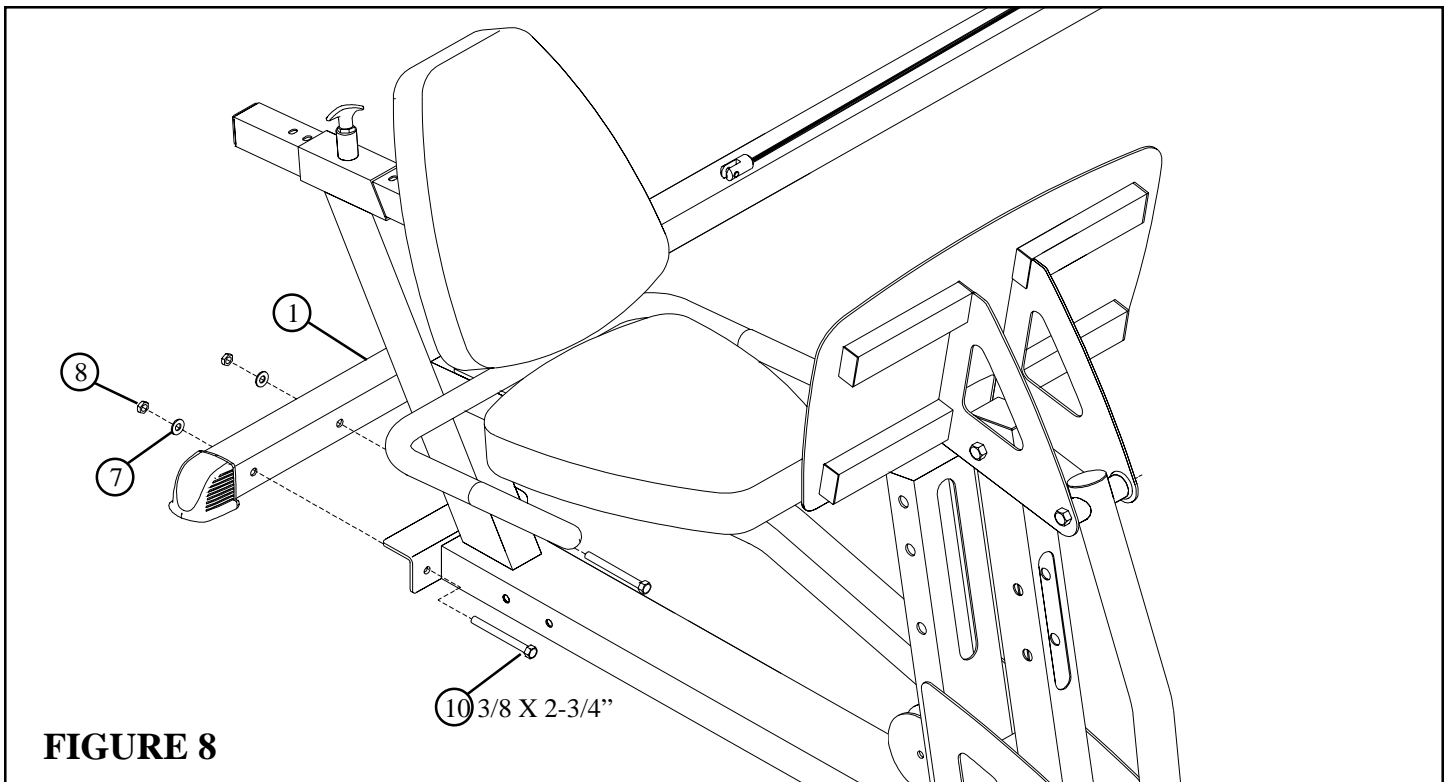

FIGURE 8
- **SECURELY** attach the LP5 LEG PRESS to the LEG PRESS ADAPTOR (1) using two 3/8" X 2-3/4" BOLTS (10), two 3/8" WASHERS (7), and two 3/8" LOCK NUTS (8). See FIGURE 8.